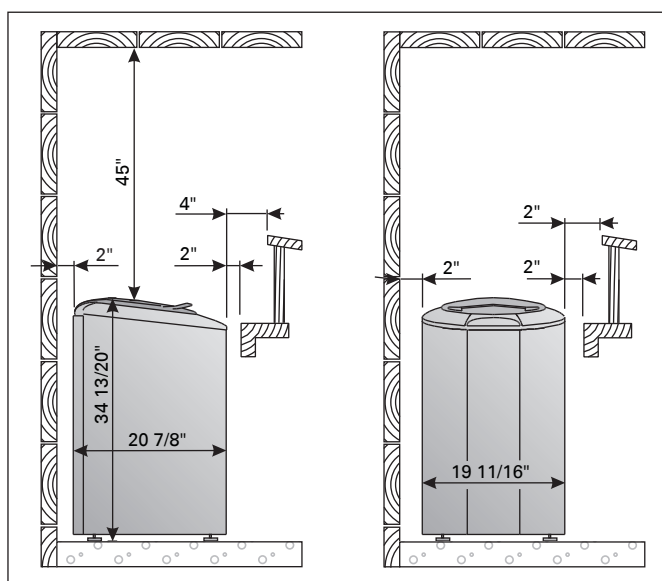

Figure 7. Minimum safety distances from the heater (inches)
requirements concerning safety distances given in fig. 7.
If a heater fence is desired, minimum distances given in figure 7 must be observed.
1. Remove heater from carton and place in proper location in sauna room. Observe proper clearances as per figures 7 and table 1. After final hookup, electrical contractor should secure heater to floor with at least two screws or bolts.